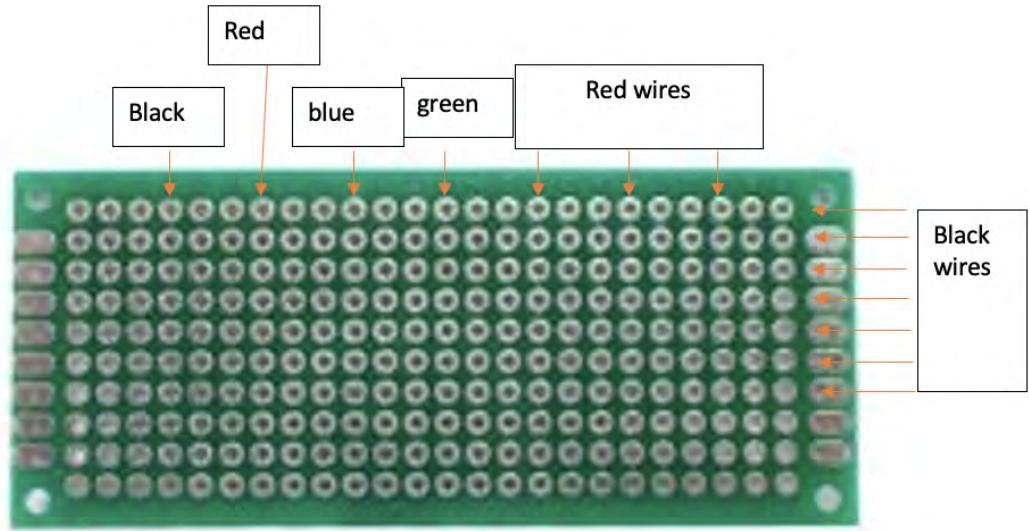

Fig. 30 (Circuit board)
2. Printed circuit board - The next step to assembling the electronics is soldering wires into the printed circuit board. For these 5 spools of 18-gauge wire is needed, red, black, blue, green, blue, and yellow as well as a 70x30 mm printed circuit board. A soldering iron and solder will also be needed as well as assorted sizes and colors of heat shrink tubing to help with organization and a pair of wire cutters/strippers. First cut 4 lengths of blue wire 3 feet in length do the same for 4 lengths of green wire. Next cut 11 lengths of black wire to 3 feet in length. Then cut 10 lengths of red wire to 3 feet in length. Next cut 3 lengths of yellow wire to 3 feet in length. Next strip the last 20 millimeters of both ends of all of the lengths of wire that have been cut. Prepare all of the ends of the wires by twisting the exposed strands together insert 7 of the black wires into the row of holes on the far-right side of the printed circuit board (Fig. 30). Next insert two red wires in the 4th row from the right edge of the printed circuit board (Fig. 30). Next insert another pair of two red wires in the 7th row from the right edge of the circuit board (Fig. 30). Next insert another pair of two red wires in the 10th row from the right edge of the circuit board (Fig. 30). Next insert the 4 green wires into the 13th row from the right edge of the circuit board (Fig. 30). Next insert the 4 blue wires into the 16th row from the right edge of the circuit board (Fig. 30). Next insert 4 red wires into the 19th row from the right edge of the circuit board (Fig. 30). Next insert 4 black wires into the 22nd row from the right edge of the circuit (Fig. 30). Finally solder all of the connections together in each row, do not make connections across any of the rows of wires. Group one red wire of the right most pair of red wires with one blue and one green wire as well as one black wire from the far right using a large tube of heat shrink, heat this up using a heat gun or hair drier to make permanent. Group one red wire from the middle pair of red wires with one blue and one green wire as well as one black wire from the far right using a large tube of heat shrink. Group one red wire from the left most pair of red wires located on the 10th row from the right edge of the circuit board, with one blue wire as well as one green wire and one black wire from the far right grouping. Group the